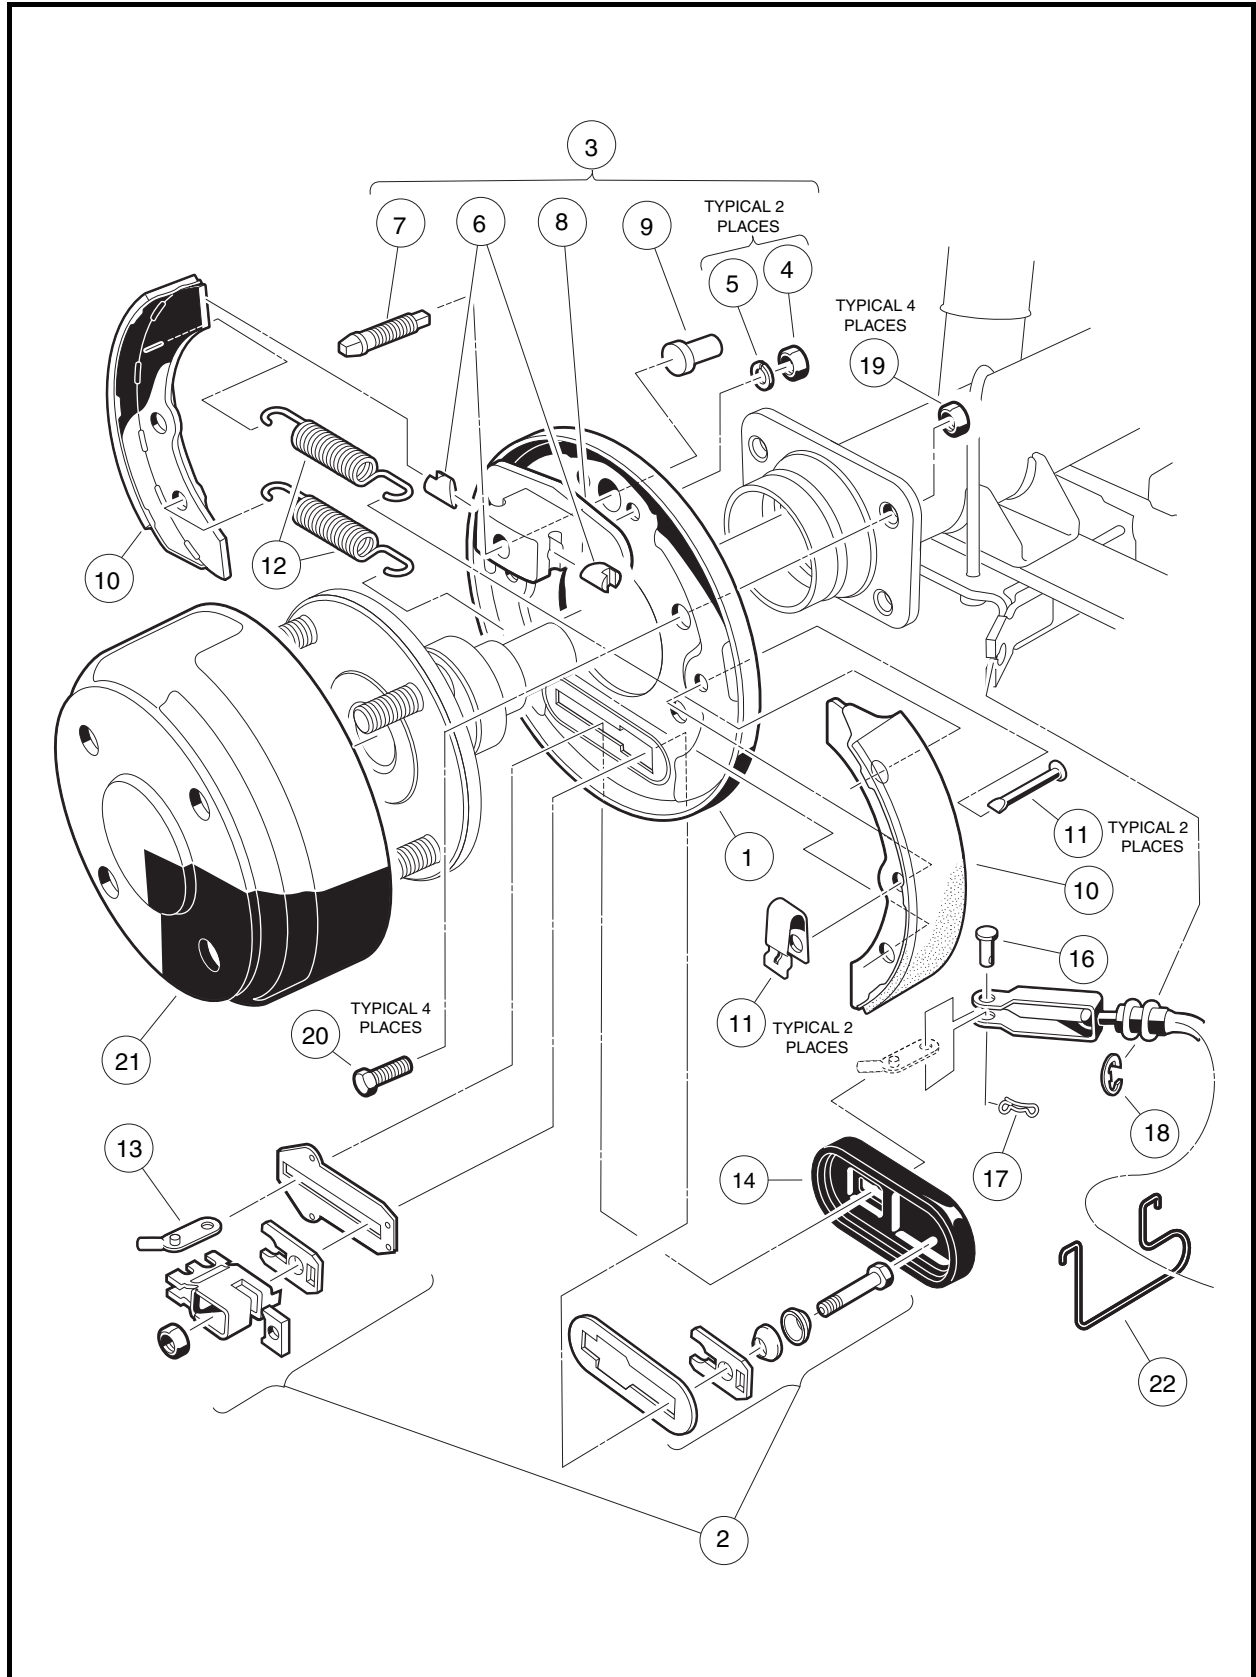

Figure 6-31 Rear Manually-Adjusted Brake Assembly
5. Remove bow-tie pin (17) and clevis pin (16) from brake cable (**Figure 6-31, Page 6-14 or Figure 6-11, Page 6-5**).
6. Remove 4 bolts (20) and cone lock nuts (19) that mount the brake assembly to the transaxle (**Figure 6-31, Page 6-14 or Figure 6-11, Page 6-5**).
2. Be sure bolts (20) and new cone lock nuts (19) are used to mount the brake assembly (**Figure 6-31, Page 6-14 or Figure 6-11, Page 6-5**).